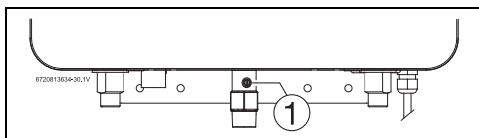

Fig. 34 Gas pressure test port
- ▶ Locate the inlet gas pressure test port (see Fig. 34).
- ▶ Loosen the screw inside test port fitting (do not remove) and connect the manometer tube to the test port (see Fig. 34).